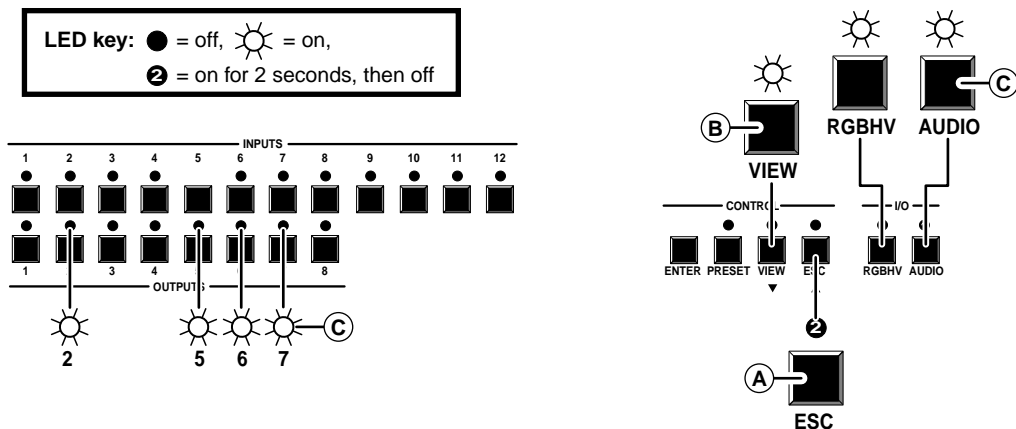
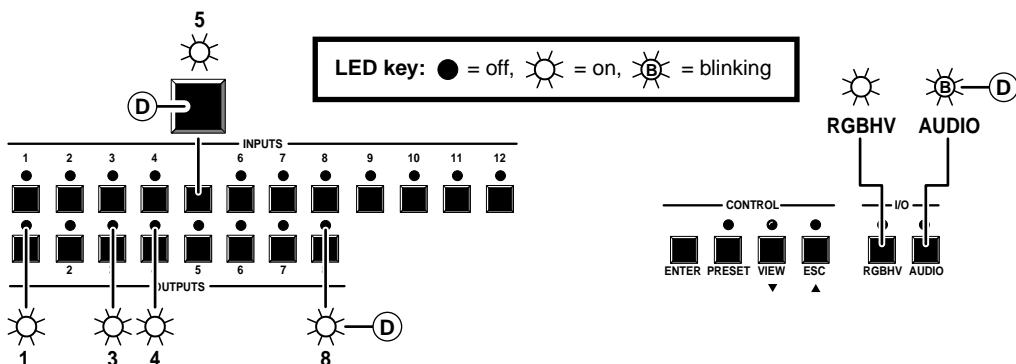
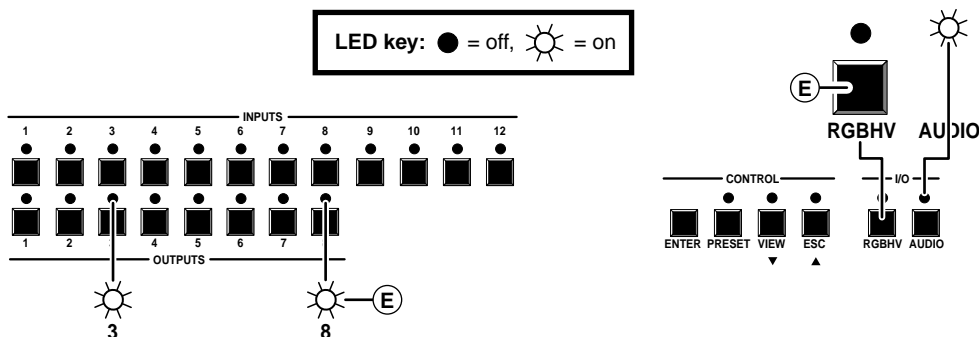

Figure 23 — Example 4: Viewing the current configuration, no input selected
Figure 24 — Example 4d: Viewing the current configuration, video and audio
Figure 25 — Example 4e: Viewing the current configuration, audio-only
See figure 23, figure 24, and figure 25, and the following steps for an example of viewing the video and audio, audio-only, and video-only ties in the current configuration.
- (A) Press and release the Esc button. The Esc LED turns on for approximately 2 seconds and turns off.
- (B) Press and release the View button to enter view-only mode. The View LED lights.
- (C) If necessary to select both video and audio for viewing, press and release the RGBHV and Audio buttons until the RGBHV LED and Audio LED light. With no input LED selected, all output LEDs that have no established ties light.
- (D) Press and release the input 5 button (figure 24). The input 5 LED lights.
- (E) Press and release the RGBHV button to toggle the Video LED off (figure 25). If audio is broken away, the Audio LED stops blinking and lights.